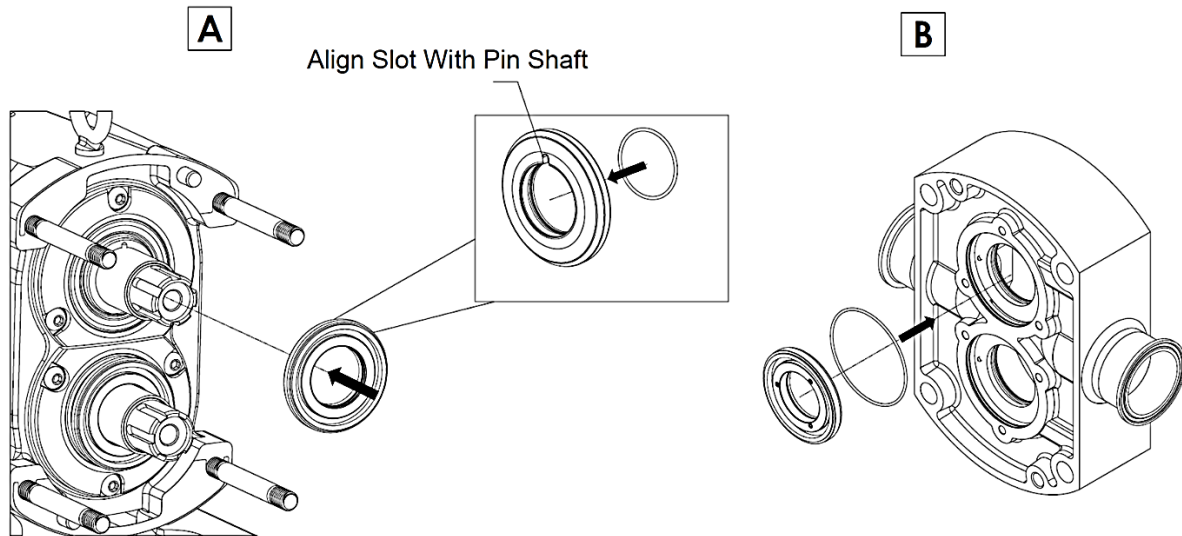

Figure 36: Double Mechanical Seal Assembly
Assembly: Clean both shaft ends and the body before assembling. Lubricate the rotating seal o-ring and install it in the rotating seal. Slide the rotating seal onto the shaft as seen in Figure 36 (A) making sure to line the slot on the rotating seal to the pin in the shaft. Install the seal base o-ring in the back of the body and apply a light film of lubricate. Push the double mechanical seal base in the body making sure to line up the holes in the base with the pins in the body (Figure 36, B).